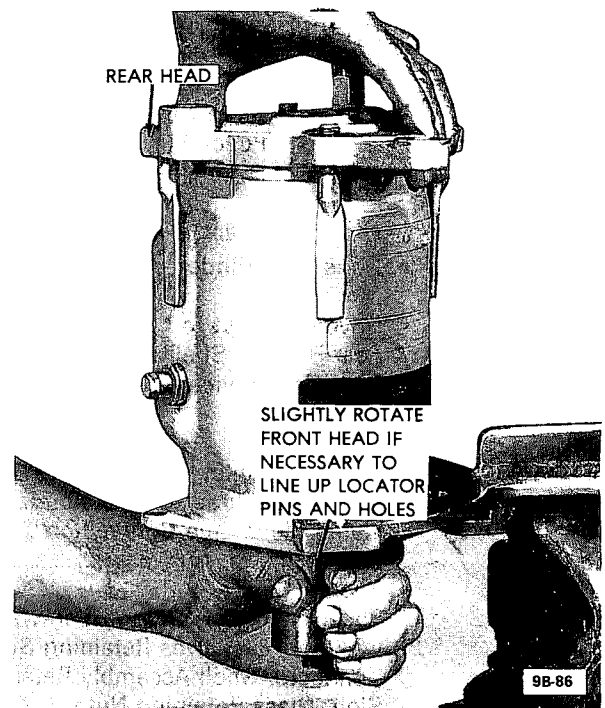

Figure 9B-113 Installing Rear Head - 6 Cylinder Compressor
1. After the shaft seal pressure test (ref. to "Disassembly and Reassembly of Clutch Drive Plate and Shaft Seal") has been performed, change the test circuit to the configuration shown in Figure 9B-114.